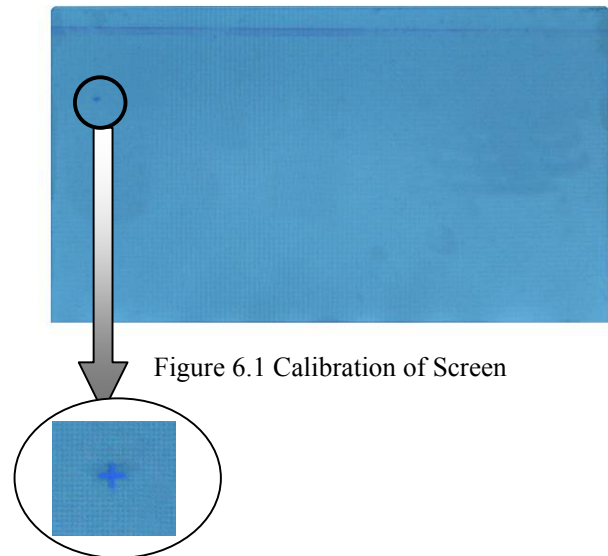

Figure 6.1 Calibration of Screen
1) Enter the “system setting” interface, click the “download of timing point” button to enter the “window of download of timing point”; at the lower right corner of this window, click the “screen calibration” button to enter the screen calibration interface as shown in Figure 6.1.